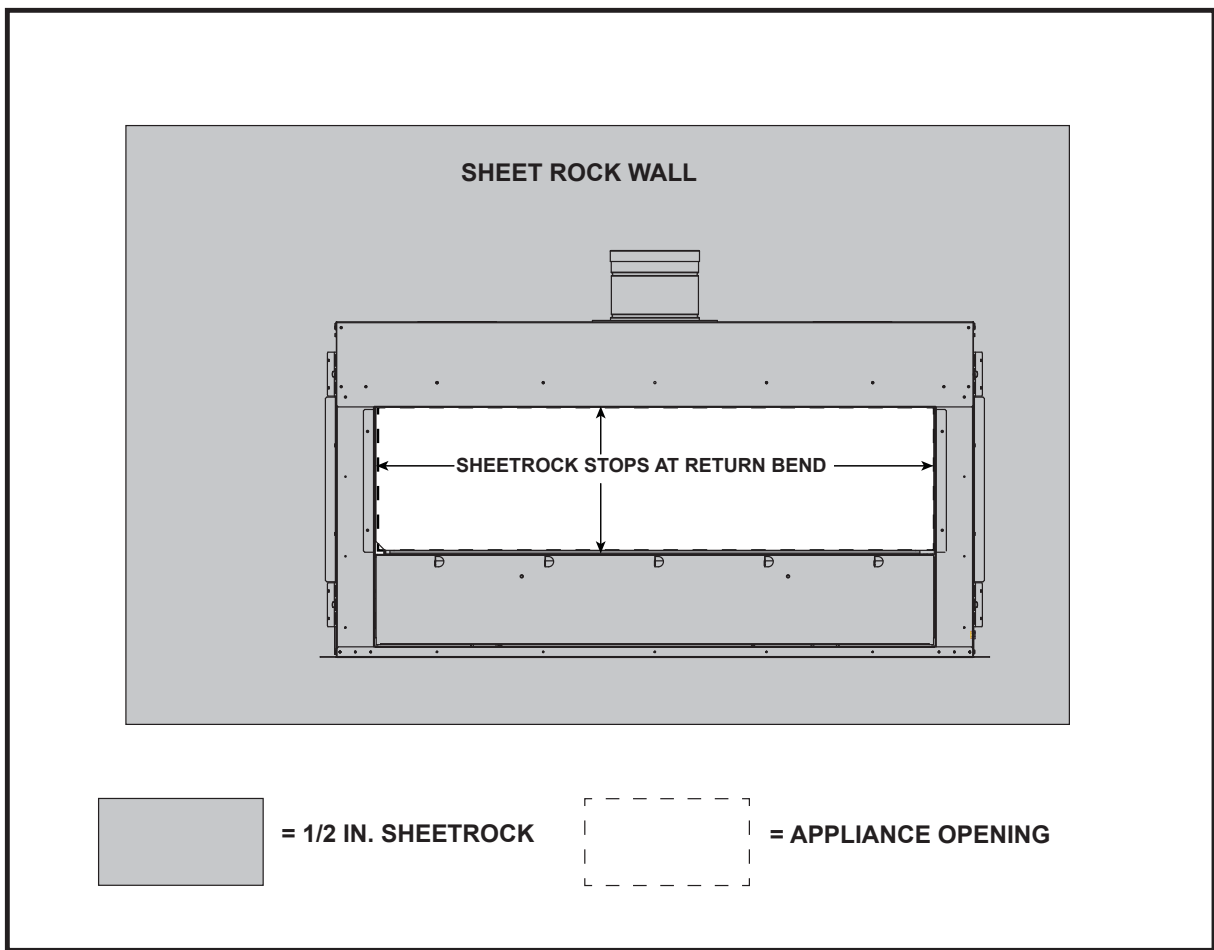

Figure 2. Sheetrock Detail for Both Finishing Methods
- Facing and/or finishing materials must never overhang into the glass opening. See Figure 2.